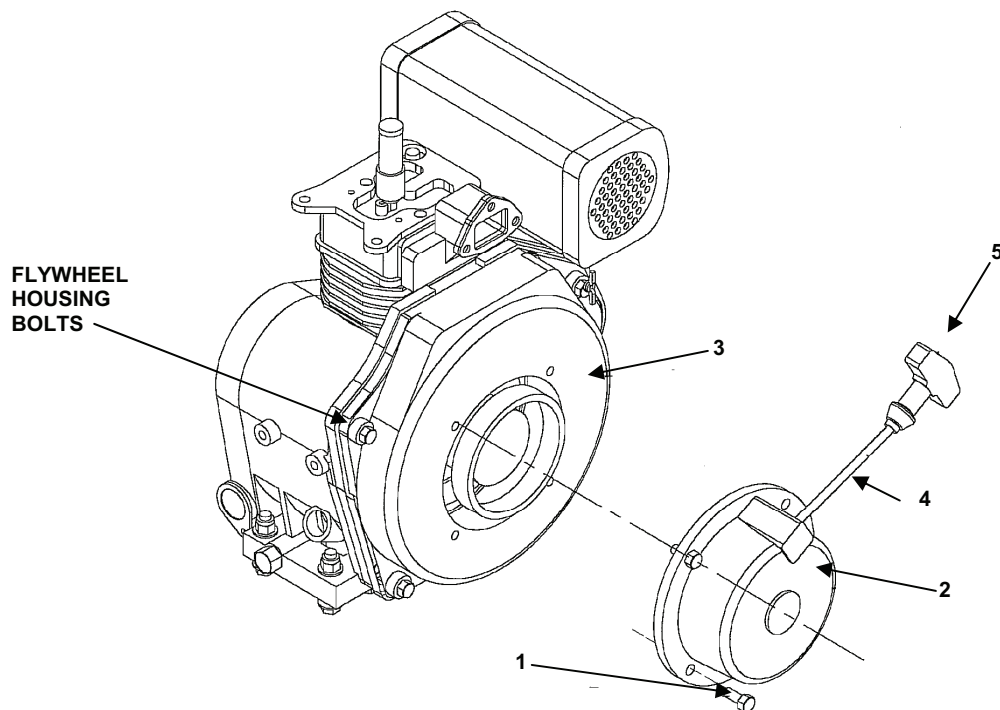

Figure 1. Recoil Starter Removal.
1. Remove bolts (Figure 1, item 1), and remove the recoil starter assembly (Figure 1, item 2) from flywheel housing (Figure 1, item 3).
Remove flywheel housing (Figure 1, item 3) by removing bolts.
1. Note how and where the rope is anchored on the recoil assembly (Figure 1, item 2).
2. Remove the starter rope from the recoil starter assembly (Figure 1, item 2) and handle (Figure 1, item 5).